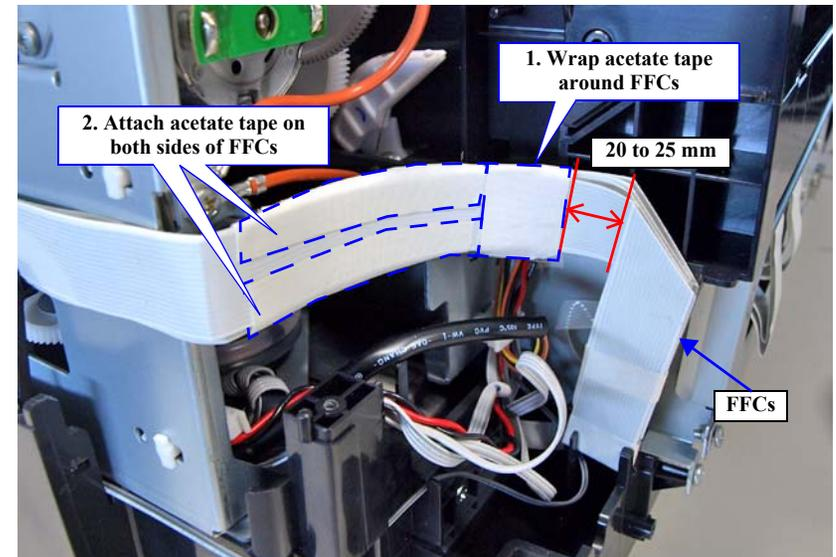

Figure 4-122. Taping the FFCs
26. Attach acetate tape on the position shown in *Figure 4-122* to secure the six FFCs together.